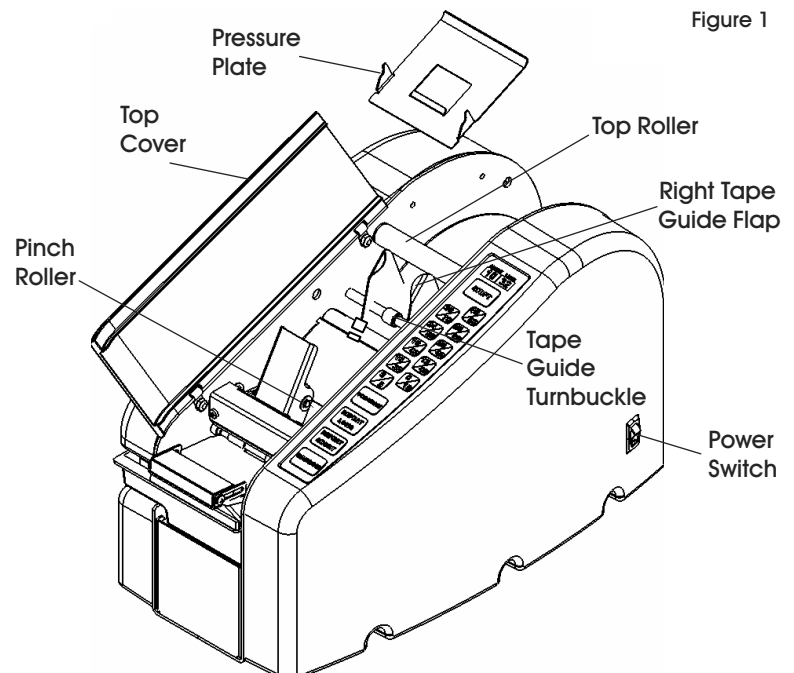

Figure 1
2. Adjust tape guides with the tape guide turnbuckle to fit the width of the tape. Insert tape roll. Include a 1/8" clearance on both sides of the tape roll. (See Figure 1)
3. Remove the pressure plate. (See Figure 1)